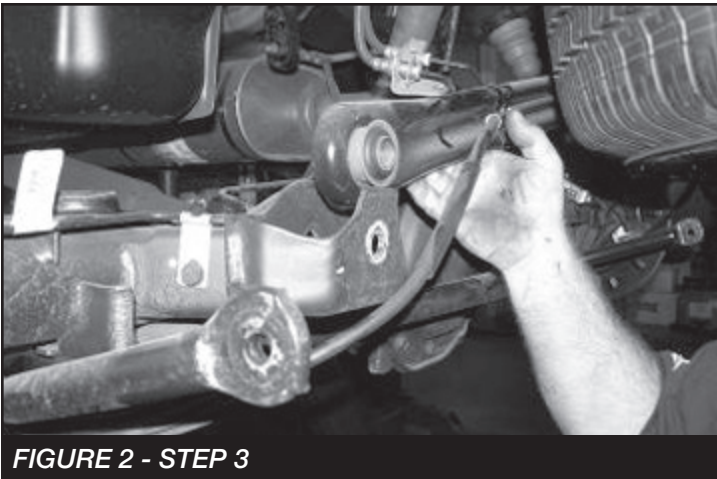

FIGURE 2 - STEP 3
3. Using a floor jack, raise the differential just enough to slightly compress the rear shocks. Remove the bolts securing the top of the shocks to the frame (if equipped with the Auto Ride System, unplug the electric and air line connections). Remove the lower pivot bolt that attaches the track bar to the axle bracket and save. **SEE FIGURE 2**